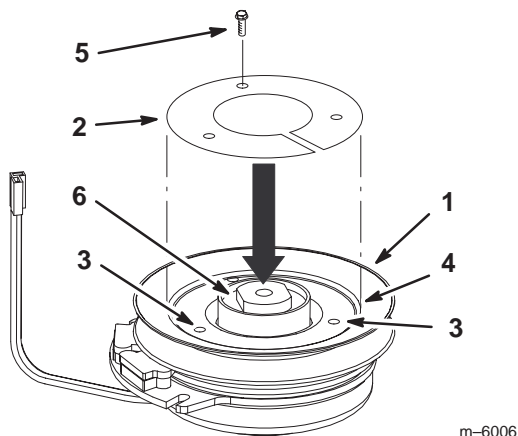

Figure 4
6. Position the template into the clutch pulley so the outside diameter is flush with the inside of the clutch flange (Fig. 4).
7. Using the template, drill one 1/8 in. pilot hole into the pulley (Fig. 4).
8. Install the screw (#6 x 1/2 in.) into the 1/8 in. hole (Fig. 4). This will hold the template in place while drilling the other two holes.
9. Using the template, drill the remaining two 1/8 in. pilot holes into the pulley (Fig. 4).
10. Remove the template and the screw (#6 x 1/2 in.) and discard (Fig. 4).
11. Drill 3 holes, 3/8 in. diameter, into the 1/8 in. pilot holes. (Fig. 4).